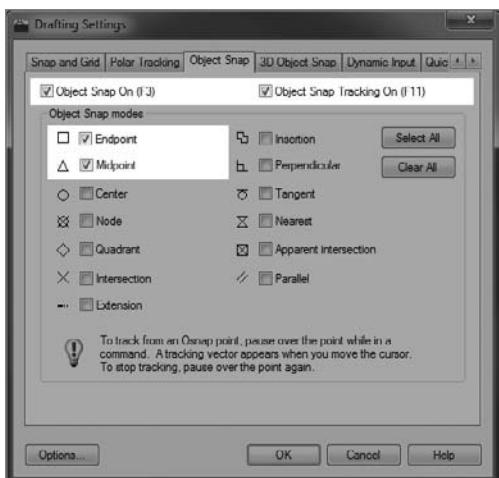

FIGURE 5.35 Enabling the Endpoint and Midpoint object snaps from the Drafting Settings dialog box
2. Verify that Polar Tracking, Object Snap, and Dynamic Input are still enabled and then turn on the Midpoint and Endpoint object snaps from the Drafting Settings dialog box, as shown in Figure 5.35.